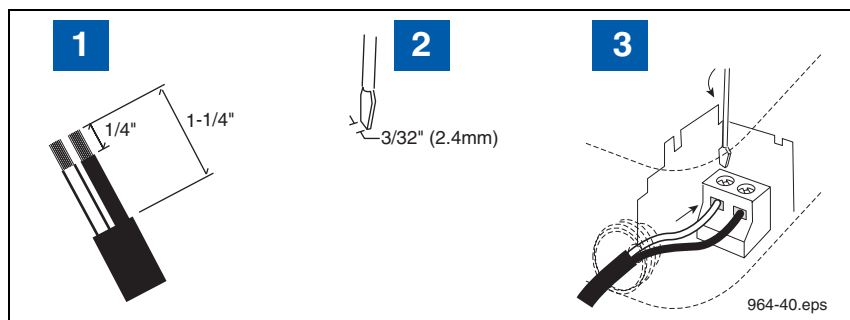

Figure 4. Connecting Wiring To Device Terminal Blocks
- d. Strip back the cable jacket and wires as shown in Figure 4.
LEGEND FOR NUMBERED BOXES IN Figure 4
NOTE: see Figure 4 for wire connection tips. NOTE: In sites with more than one TLS RF, the Receiver is only connected to the master TLS RF.